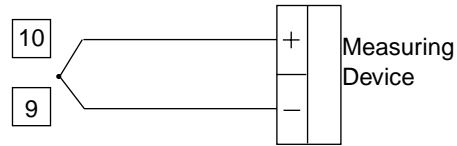

Figure 4. Measure Temperature Near Terminals
- a) Measure the temperature close to terminals 9 and 10 using an appropriate instrument – for example, MEMOCAL. See Figure 4.